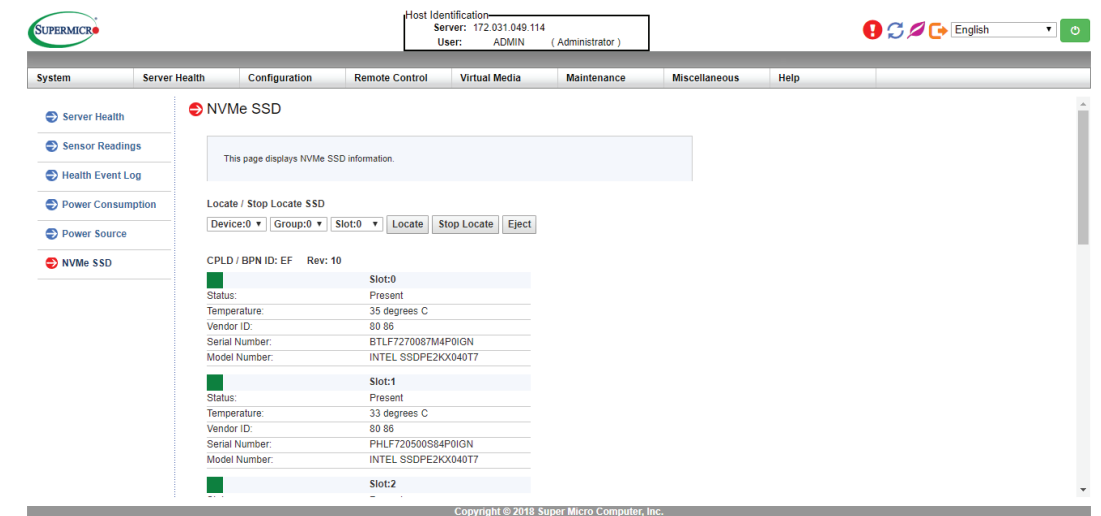

Figure 3-9. IPMI Screenshot
- **IPMI > Server Health > NVMe SSD** – Shows the temperatures of all NVMe drives, as in Figure 3-9.